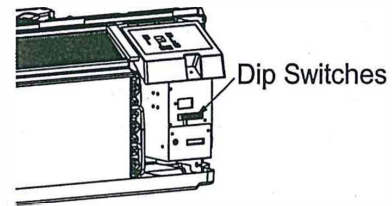

Fig.3
- Dip switches are accessible without opening the control box. See Fig.3.
- Pull out at the bottom to release it from the tabs ①.
- Then lift up ②.
- Carefully remove shipping tapes from the front panel. (See Fig.3)